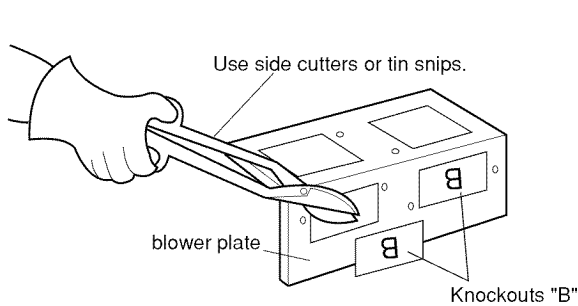

Figure 14
7. Use side cutters or tin snips to cut and remove knockouts marked "B" from blower plate. Discard knockouts. See Figure 14.